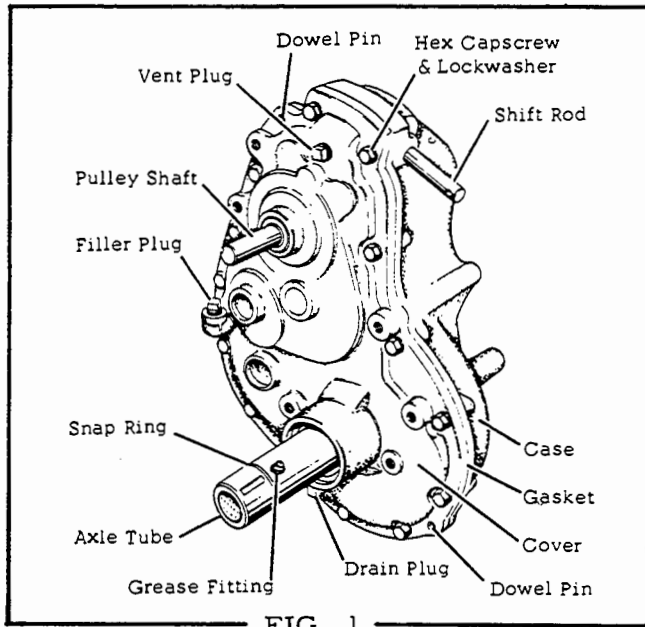

FIG. 1
2. Remove the 14 hex head capscrews and lockwashers from around the edge of the transmission cover. Drive the 2 dowel pins down into the transmission case holes and insert a screw driver at several points between the cover and the case and pry upwards to break the cover loose from the case. See Fig. 1. When cover is free, lift off.